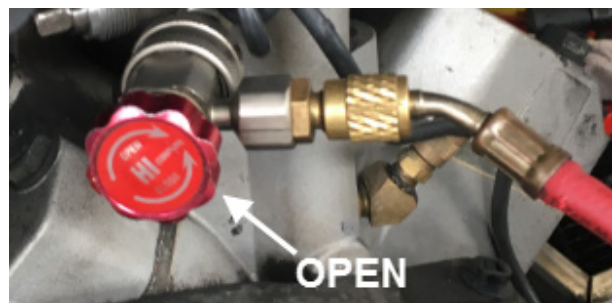
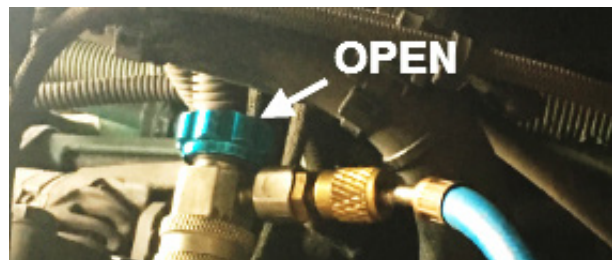

FIGURE 8: GAUGE VALVE OPENED (HIGH PRESSURE)
FIGURE 9: GAUGE VALVE OPENED (LOW PRESSURE)
- Open both gauge valves (figure 8 & figure 9).